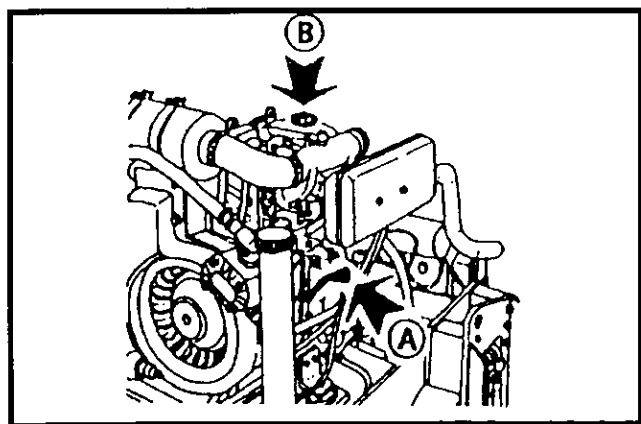

Figure 5-23 Engine Oil Fill Port
9. Refill crankcase with motor oil through the filler ('B', Figure 5-23). Fill to the full mark on the dipstick ('A', Figure 5-23). Refer to Section 8 - Fuel And Lubricant Instructions for oil details.